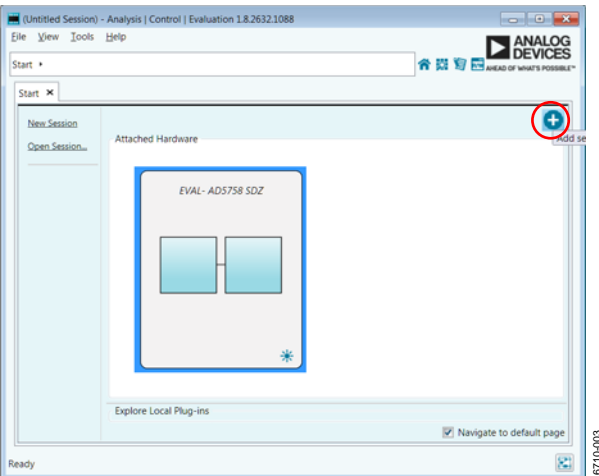
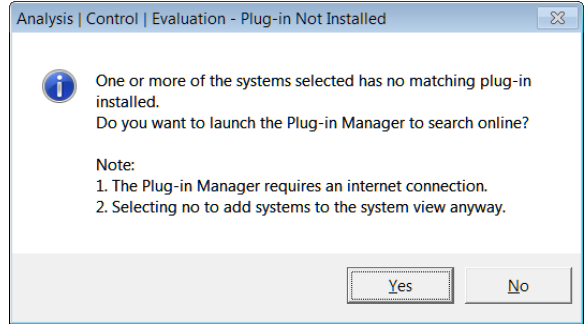
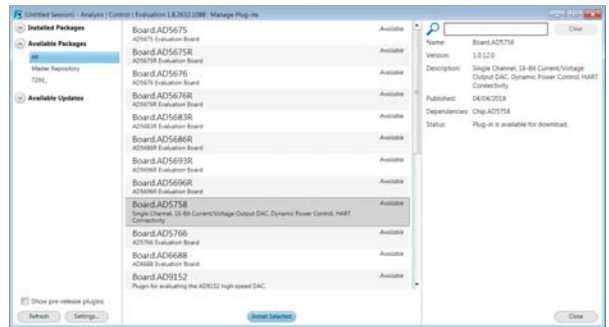
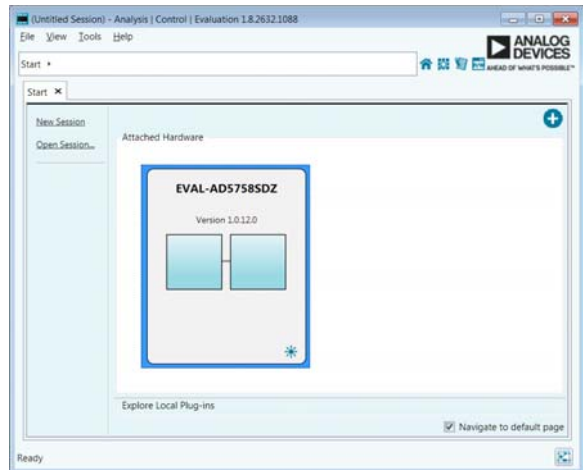

Figure 3. EVAL-AD5758SDZ Plug-In Not Installed
Figure 4. Installing Plug-In Pop-Up Window
Figure 5. Plug-In Manager Window
Figure 6. Attached Hardware Pane with EVAL-AD5758SDZ Connection
5. When setting up the evaluation board for the first time, the EVAL-AD5758SDZ plug-in may need to be installed. If the plug-in appears as shown in Figure 6, go to Step 7. If the plug-in appears as shown in Figure 3, click the button that is circled in red in Figure 3. After clicking this button, the pop-up window shown in Figure 4 appears. Click Yes.
6. A new window appears, as shown in Figure 5. Navigate to the Board.AD5758 plug-in and click Install Selected. The EVAL-AD5758SDZ plug-in installs and is displays, as shown in Figure 6.